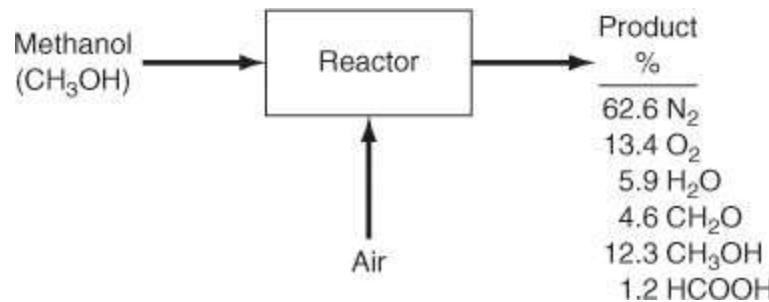

Figure P5.3.3
****5.3.3.** Examine the reactor in Figure P5.3.3. Your boss says something has gone wrong with the yield of CH_2O , and it is up to you to find out what the problem is. You start by making material balances (naturally!). Show all calculations. Is there some problem?